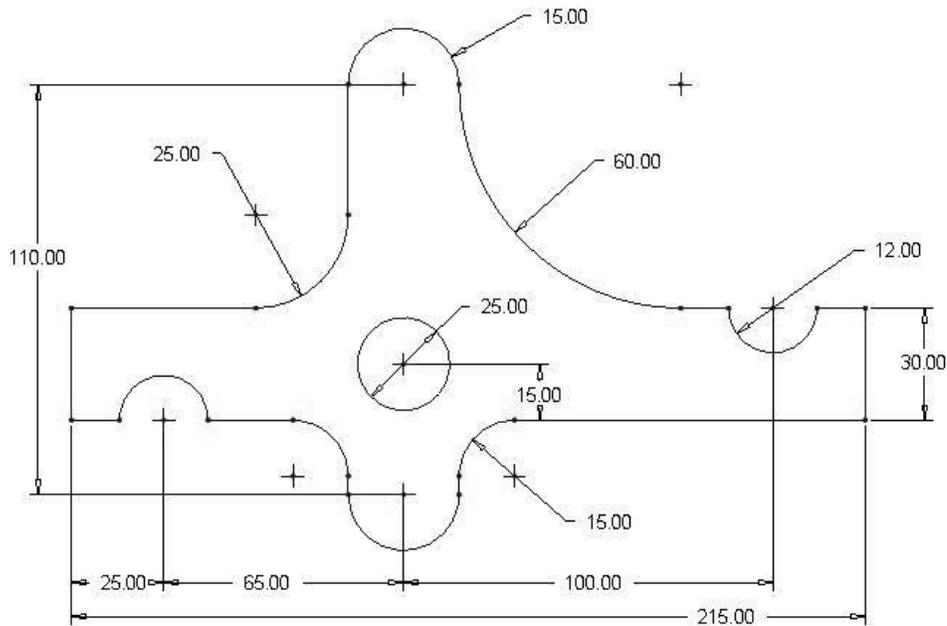

Figure 3-81 Problem 12
- 3.12** Challenge problem - Draw the **Racket Pawl** (Figure 3-81). **Design Intent**—All arcs are tangent to each other or the straight edges. Unmarked similar sizes are the same size. All dimensions are in millimeters.